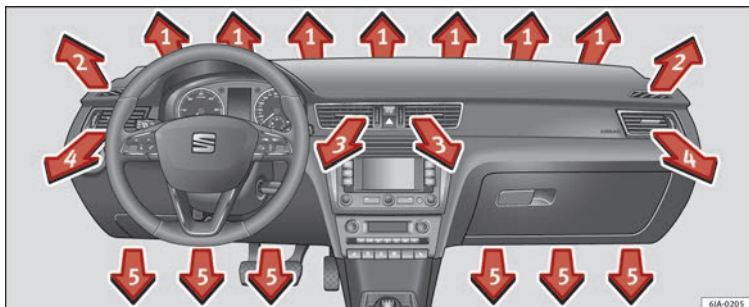
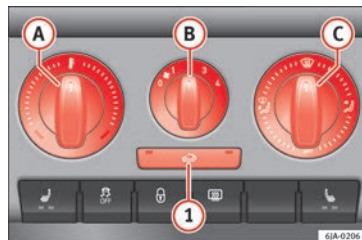

Fig. 85 Air vents
Fig. 86 Heating: controls.
- The air circulation height can be varied by changing the position of the sliding adjuster upwards or downwards » Fig. 85.
The flow of air from the vents is controlled using control **C** » Fig. 86. Vents **3** » Fig. 85 and **4** can be opened and closed individually.
- Turn rotary control **A** »» Fig. 86 clockwise to increase the temperature.
- Turn rotary control **B** »» Fig. 86 to position 1 to 4 to switch the blower on.
- Turn rotary control **C** »» Fig. 86 to select the air vents »» page 88, Air vents you wish to activate.
All controls, except control **B** »» Fig. 86, can be set to any intermediate position.
- Controls **(A)** » **Fig. 86** » page 88, **(B)**, **(C)** and button **(1)**.
- Press button **(1)** » **Fig. 86** » page 88 and the lamp in the button will illuminate.
- Press button **(1)** » **Fig. 86** » page 88 again and the lamp in the button will switch off.
If air vent **(C)** » **Fig. 86** » page 88 is in position **(1)**, air recirculation mode switches off automatically. Press the **(1)** button to switch air recirculation mode back on in this position.